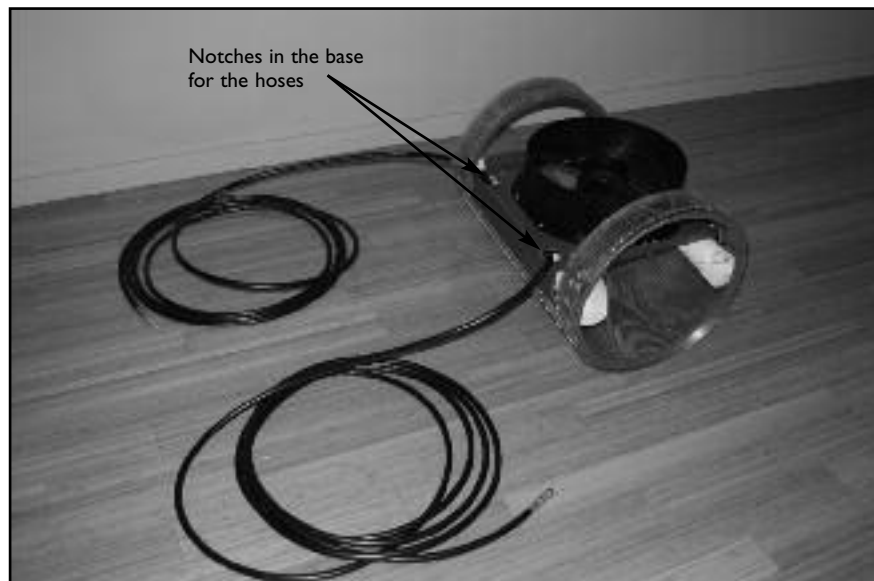

Fig. 9.2
- 9.3** Uncoil the two lengths of hydraulic hose that are attached to the cylindrical base. Make sure that the hoses are seated into their respective notches in the backside of the base (Fig 9.2).